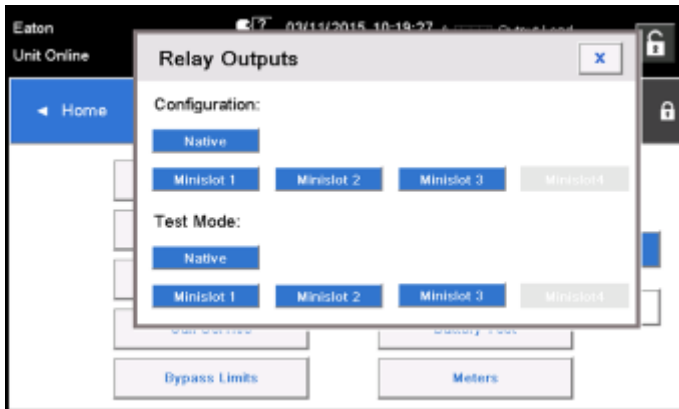

Figure 40. Options for relay outputs configuration
10. You can test the relays by selecting any of the options in the test mode (see Figure 40).